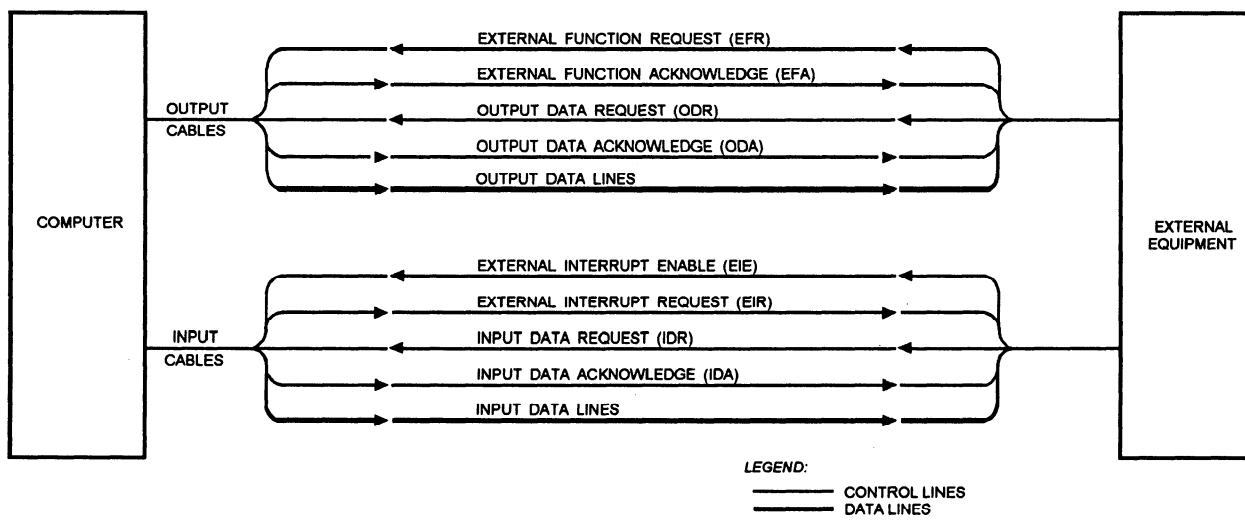

Figure 7-27.—Example of parallel channel architecture (two cables).
With parallel operations, there are two ways the computer can communicate with each external device. The computer can use a single cable to handle the parallel input and/or output operations or two cables: an **input** cable for the computer to receive information from an external device and an **output** cable for the computer to send information out to the same external device. The two cables will constitute one channel. Some computers can have up to 64 I/O channels. The I/O channels are usually identified by the octal numbering system. Thus, if you had a computer with 16 channels, the octal number assignments would be 0₈ through 17₈. Also, the channels are often arranged in groups with 4 channels per group. The parallel channel itself (fig. 7-27) consists of 8 or more data lines (8, 16,
Two cables will make up one channel. As stated with two cables, one cable will specifically handle input functions and the other cable will handle **output** functions. Refer again to figure 7-27. Notice the direction of information flow. Data request signals are always sent from the external equipment to the computer. The acknowledge signals are always sent from the computer to the external equipment.
The sequence of events using an input, output, external function (buffered), and external interrupt operations is described from the computer's point of view. We begin from the point that an **input data (ID)**, **output data (OD)**, **an external function (EF)**, or an **external interrupt (EI)** has been established for a channel. The computer and the external equipment on that channel transfer data as described in the following paragraphs. Refer back to figure 7-27.